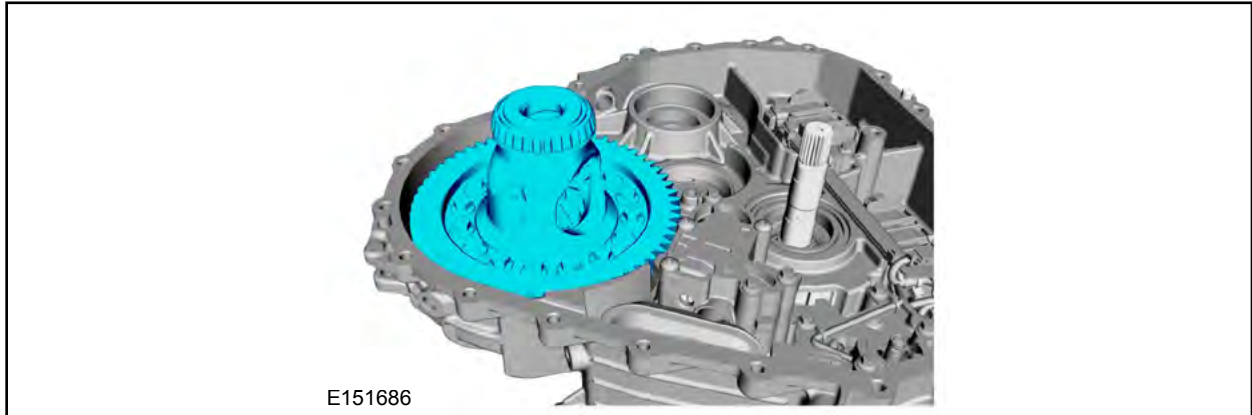

FIGURE 37
32. Install the differential carrier gear assembly. See Figure 37.